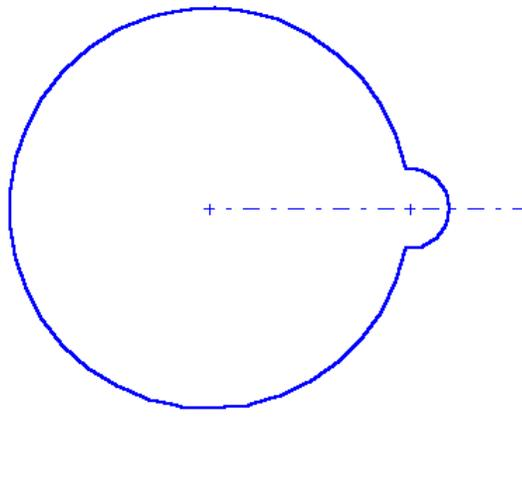

Figure 2-39 Sketch after trimming the unwanted entities
8. Choose the **Center line** button from the **Sketch Tools** toolbar to draw a horizontal center line from the center of the circle toward the right, see Figure 2-39.
13. Trim the part of the sketch so that the sketch looks similar to the one shown in Figure 2-39.